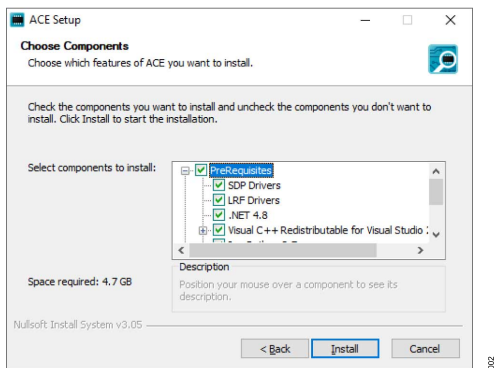

Figure 3. Drivers to Install with ACE Software
1. Install the latest version of ACE software. In the ACE Setup window, ensure that the SDP Drivers, LRF Drivers, and NET 4.8 installations are selected (see Figure 3). Then click Install.